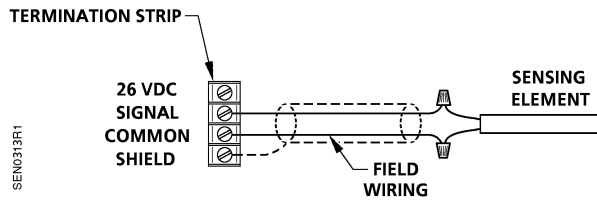

Figure 1. Typical Wiring Connection.
8. Connect the sensor leads and field wiring. See Figure 1 for the proper wiring connections.